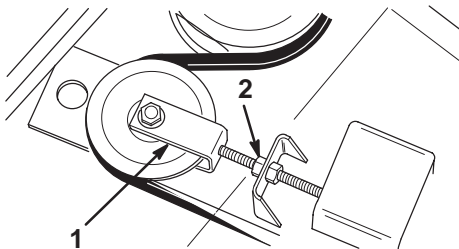

Figure 1
1. Remove deck covers and relieve belt tension on all belts (Fig. 1).